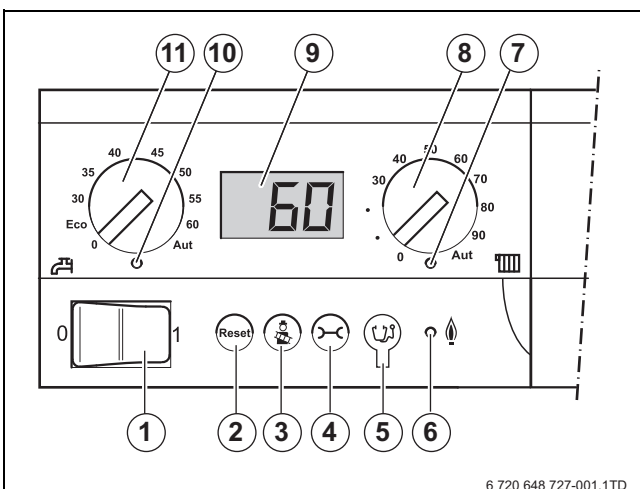

Fig. 4 BC10 basic controller
The mains switch (→ fig. 4, item 1) is used to switch the boiler on and off.
If a fault has occurred you may have to restart the boiler by pressing the "Reset" button (→ fig. 4, item 2).
The "Chimney sweep" button (→ fig. 4, item 3) is used to put the boiler into manual operation mode, e.g. if the heating system control (e.g. room controller) is defective.
The "Service" button (→ fig. 4, item 4) is used to display the current CH (boiler) flow temperature, the current working pressure etc.
A Worcester service engineer can connect a Service Tool here (→ fig. 4, item 5) for diagnostic purposes when servicing.
The "Burner" (On/Off) LED (→ fig. 4, item 6) lights up when the burner of the boiler is switched on and it is extinguished when the burner is switched off.
The "Heat demand" LED (→ fig. 4, item 7) lights up when the control system has made a heat demand and it is extinguished when this heat demand is no longer required.
The maximum CH (boiler) flow temperature (→ fig. 4, item 8) is used to set the upper CH (boiler) flow temperature limit. The unit is °C.
- ▶ Limit the maximum CH (boiler) flow temperature using the “CH (boiler) flow temperature” dial (→ fig. 4, item 8) to the permissible flow temperature of the floor heating circuit (usually maximum 40 °C).
The heating system status and values can be read out from the display (→ fig. 4, item 9). If a fault occurs the display will immediately show the accompanying fault code. The fault code display will flash if a locking fault is detected.
The “DHW mode” LED (→ fig. 4, item 10) lights up when a DHW request has occurred and it is extinguished when this DHW request is no longer required.
The DHW temperature dial (→ fig. 4, item 11) is used to select the required temperature of the hot water in the hot water cylinder. The unit is °C. This is only active with certain Bosch controls.